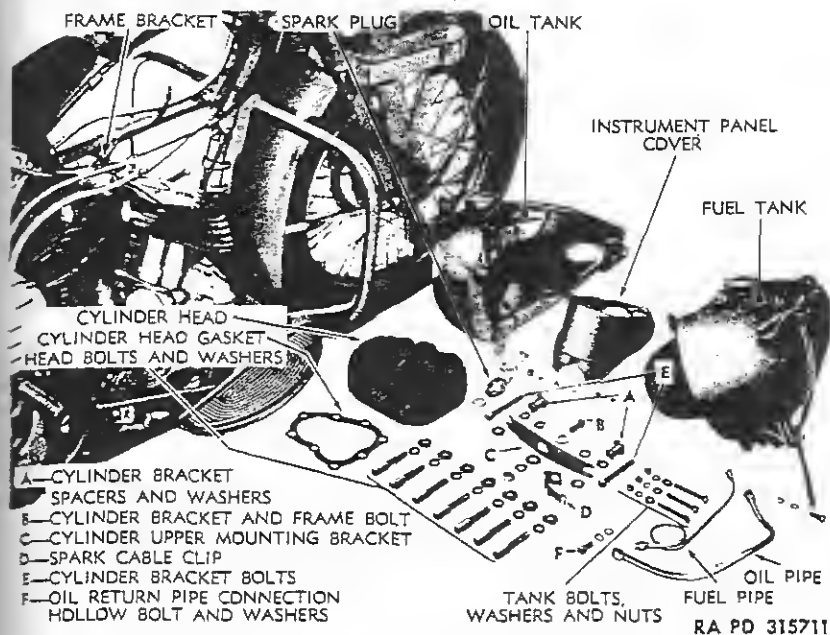

Figure 15—Disassembly for Head Gasket Replacement
41. REPLACEMENT OF HEAD GASKET (fig. 15).
a. Removal. Refer to figure 15, illustrating necessary parts and units to be removed to perform this operation.
- (1) Remove instrument panel cover (par. 119).
- (2) Remove gasoline tank and oil tank (par. 107).
- (3) Remove cylinder head bracket to frame lug bolt; this will free clamp which secures front spark plug cable. Pay particular attention to shim washers placed between cylinder head bracket and frame lug, as these washers must be replaced when installing cylinder head.
- (4) Remove spark plug, or plugs.
(5) Remove cylinder head bolts, using head bolt wrench 41-W-1525. NOTE: On some 42 WLA models, plain washers (0.095-inch thick), in addition to regular (heavy) cylinder head bolt washers, were used to prevent cylinder head bolts from bottoming.
(6) Perform carbon removal (head only). Refer to paragraph 42.
b. Installing Gasket and Head (fig. 15).
(1) Clean top of cylinder. Apply a light application of grease or oil to both sides of gasket before locating on cylinder head. Place head on cylinder.
(2) Install head bolts, using heavy washers (also 0.095-inch thick plain washers, if any were removed). If in doubt as to use of 0.095-inch thick washers in addition to regular washers, measure depth of bolt holes in cylinder head. Head having hole depth of $2\frac{1}{32}$ inch must use the 0.095-inch thick washers in addition to regular washers. Head having bolt hole depth of $1\frac{1}{16}$ inch does not require the 0.095-inch thick washers.
(3) Install cylinder frame bracket with the two long bolts, special (spool-shaped) spacers, and flat washers. The spacers go between cylinder heads and frame bracket. A flat washer goes under the head of each long cylinder bolt, above the bracket; some engines may have flat washers between the spacers and the bracket.
(4) Tighten head bolts evenly to ensure a tight cylinder head joint. Use head bolt wrench 41-W-1525, first turning down bolts just snug, then tightening each bolt $\frac{1}{8}$ to $\frac{1}{4}$ turn at a time, until all are securely tightened. If torque wrench is available, tighten head bolts to 60 foot-pounds minimum, 65 foot-pounds maximum tension when engine is cold.